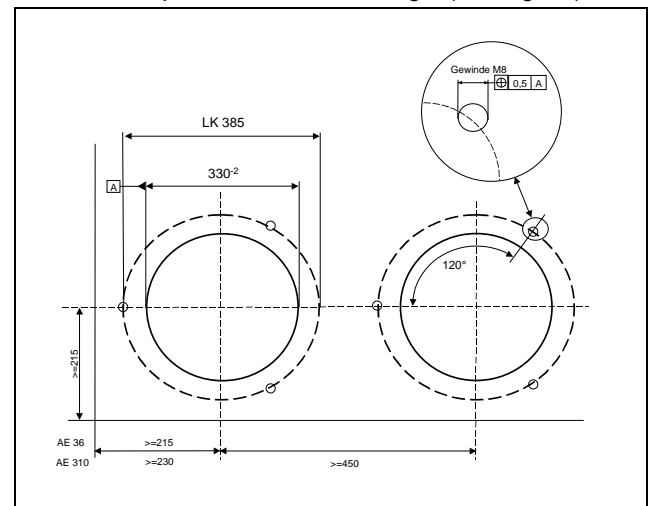

Fig. 11: Filter plate of the AE 36 and AE 310
- Weld in three fixing screws (e.g. M8 x 40) perpendicular to the filter plate so that it is dust-tight (see Fig. 11).